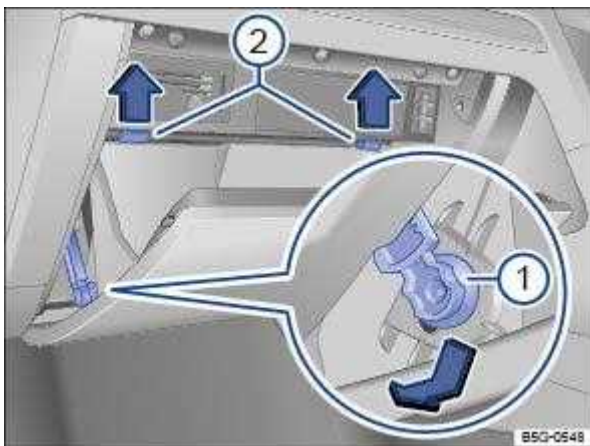

Fig. 171 Fuse box cover in the dash panel: right-hand drive vehicle, on the front passenger side.
☐ Open the stowage compartment on the front passenger side and remove the contents if necessary ⇒ Fig. 171 .
☐ Slide the braking element ⇒ Fig. 171 ① downwards into the opening in the holder and pull it out sideways.
☐ Push catches ⇒ Fig. 171 ② upwards in the direction of the arrow whilst opening the stowage compartment further.
☐ To install: move the stowage compartment into position. Insert brake element into the opening of the holder and push it upwards until it audibly clicks into place. Carefully push the stowage compartment forwards beyond the resistance of the catches ⇒ Fig. 171 ②.